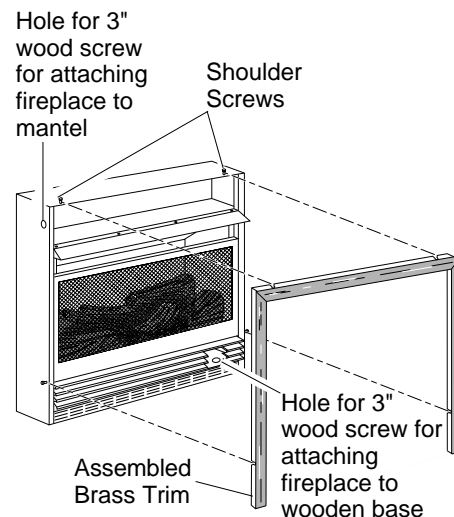

Figure 13 - Attaching Brass Trim to Fireplace
5. Firmly snap brass trim kit on shoulder screws. Shoulder screws are located on fireplace cabinet (see Figure 13).
7. Use two 3" wood screws provided and attach fireplace base to wooden base (see Figure 13).
14. Place brass trim kit on the shoulder screws located on the side and top of the fireplace. Firmly snap the brass trim over the shoulder screws on fireplace (see Figure 13).